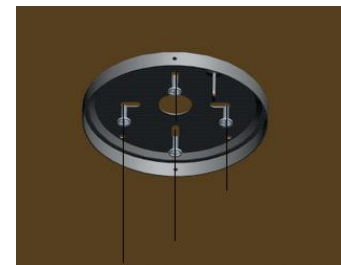

Fig 3.1
**Option 1:** Fasten the mounting plate with the ST5×24 wood setscrews (included) when securing to the wooden ceiling beam or support structure with an approved electrical outlet box as shown in Fig 3.1.